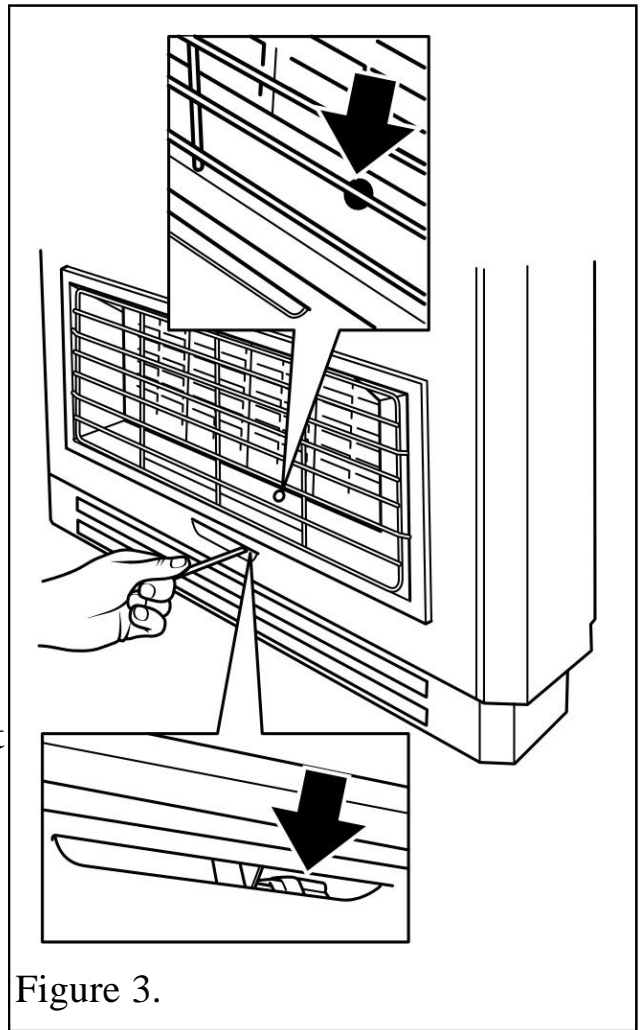

Figure 3.
- Depress the control knob and turn anticlockwise towards the 1/IGN position. A spark should be generated at the pilot while turning. The spark should ignite the pilot. **If it does not**, keeping the knob depressed, continue to turn the knob anticlockwise. A **second** spark should ignite the pilot. The pilot flame can be seen through the opening immediately below the right hand centre radiant (See figure 3).
- Depress the control knob slightly and turn anticlockwise towards the 1/IGN position. Do not apply too much pressure as this will cause resistance to be felt. Depress the control knob. Sparks should be generated at the pilot. The sparks should ignite the pilot. If the pilot does not light, turn the control knob back to the 'OFF' position and try again. The pilot flame can be seen through the opening immediately below the right hand centre radiant (See figure 3).
*While keeping the knob depressed, light the pilot by inserting a long match or taper into the opening shown in figure 3 (Second opening from the right).*